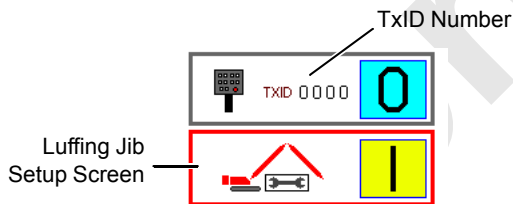

FIGURE 3-28
3. The screen in Figure 3-28 will appear.